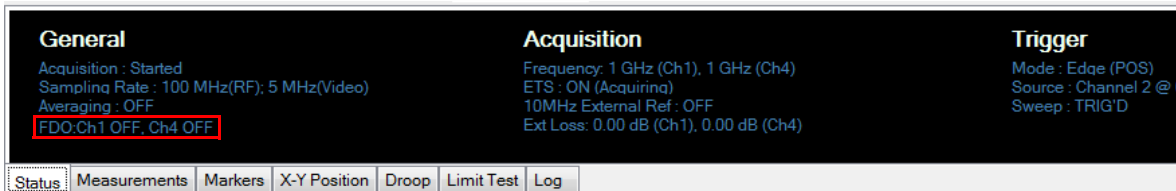

Figure 2-75 FDO status in status view
- 7 The FDO status is displayed in the Status view as shown in Figure 2-75. For more information on the Status view, refer to “Status view” on page 107.